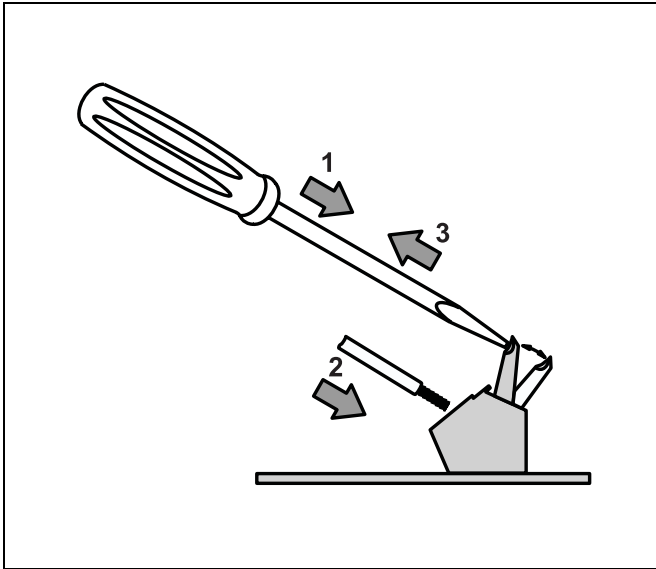

Fig. 38 Cable Insertion in the Screwless Spring Loaded Terminals
Operation: Lead (2), with the insulation stripped, can be inserted into the terminal when spring (1) is depressed. Then release the pressure (3) on the spring (Fig. 38).